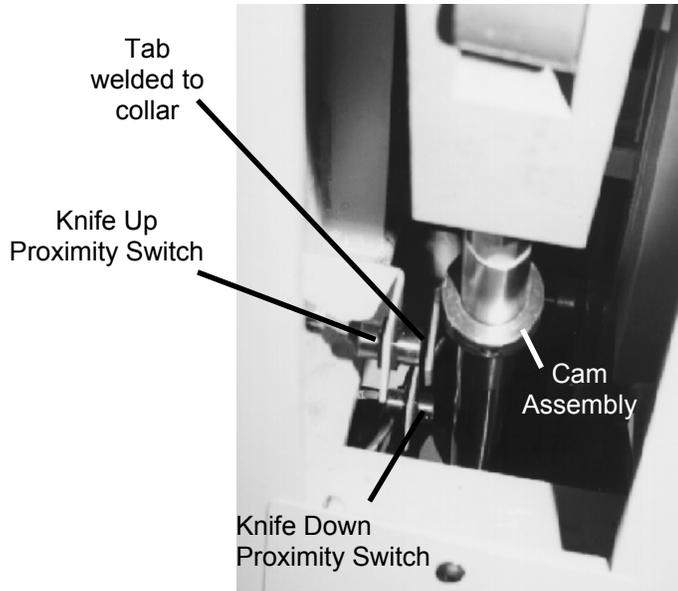

Figure 37
5. Move the cam assembly so that the tab that is welded on the collar of the cam assembly (see Figure 37 on page 68) is centered on the diameter of the proximity actuator switch (limit switch). Make sure the face of the tab on the collar is parallel to the face of the proximity switch then tighten the set screw in the cam assembly to hold the collar in place. The distance between the cam assembly and the proximity switch should be no more than 1/8" (3.2mm) of an inch.